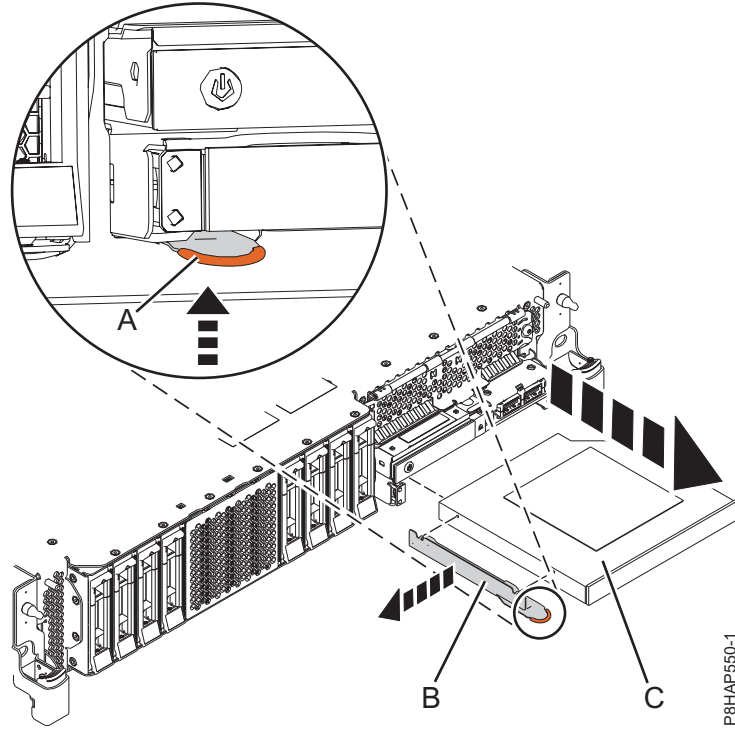
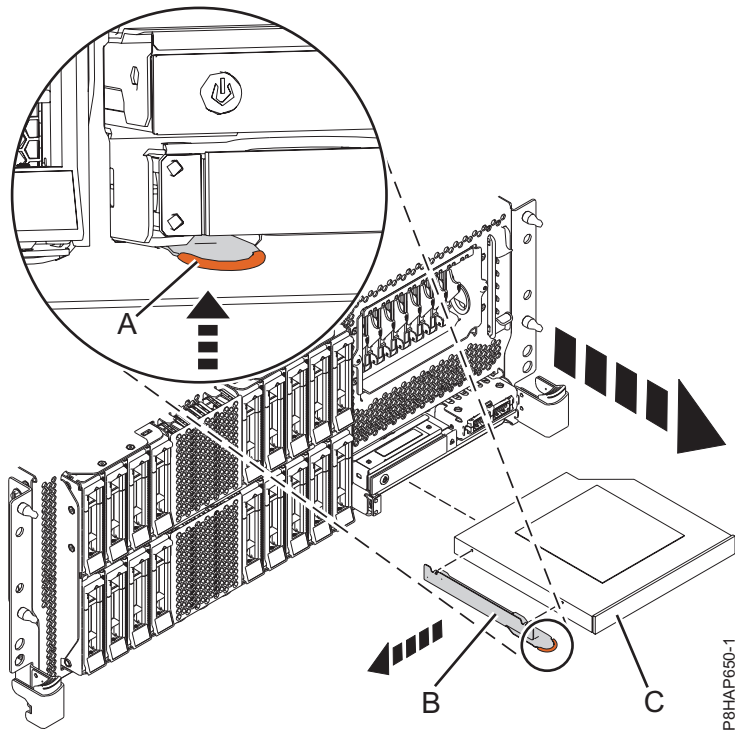
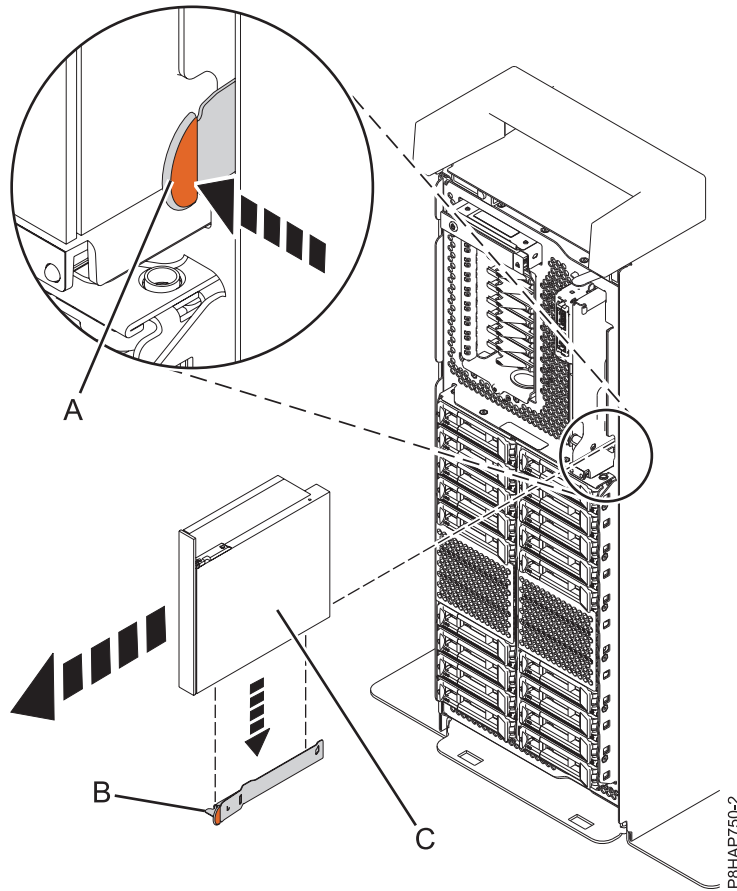

Figure 53. Removing a Slimline media device from an 5148-21L, 5148-22L, 8247-21L, 8247-22L, 8284-21A, or 8284-22A system
Figure 54. Removing a Slimline media device from a rack-mounted 8247-42L, 8286-41A, or 8286-42A system
Figure 55. Removing a Slimline media device from a stand-alone system
For an 5148-21L, 5148-22L, 8247-21L, 8247-22L, 8284-21A, or 8284-22A system, see Figure 53 on page 59, for a rack-mounted 8247-42L, 8286-41A, or 8286-42A system, see Figure 54 on page 59, or for a stand-alone 8286-41A system, see Figure 55 on page 60.
3. Pull the Slimline media device (C) away from the system, in the direction shown in Figure 53 on page 59, Figure 54 on page 59, or Figure 55.
4. If you are removing the Slimline media device as part of another service procedure, do not remove the retaining-bracket (B) from the Slimline media device.
5. If you are removing the failed Slimline media device and replacing with a new Slimline media device, you must remove the retaining-bracket (B) for use with the new media device. Remove the retaining-bracket by holding onto the terracotta touch point and pulling it out of the media device as shown in Figure 53 on page 59, Figure 54 on page 59, or Figure 55.
6. Store the retaining-bracket (B) in a safe place.